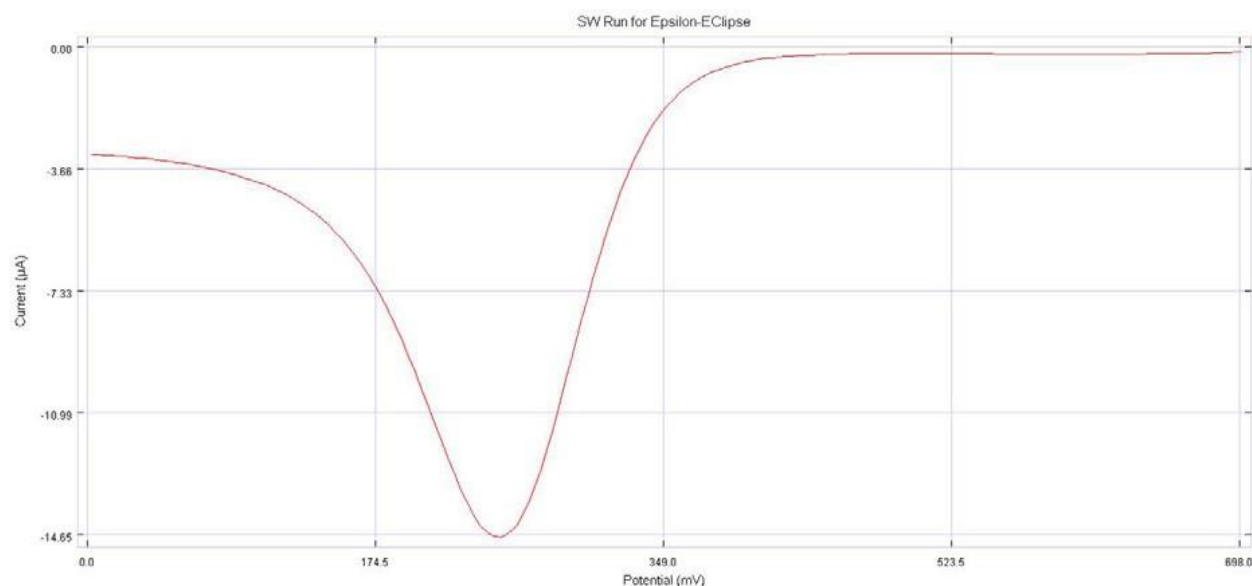

Figure 17 - Forward current plot for Square Wave Voltammetry
16. The default plot for a **Square Wave Voltammetry** experiment is the difference current; that is, the current on the forward cycle less the current on the reverse cycle. The forward and reverse currents are also available by right-clicking on the graph, or by selecting **Select Graph Type** from the **Graph** menu. The forward current data set is shown in **Figure 17**.